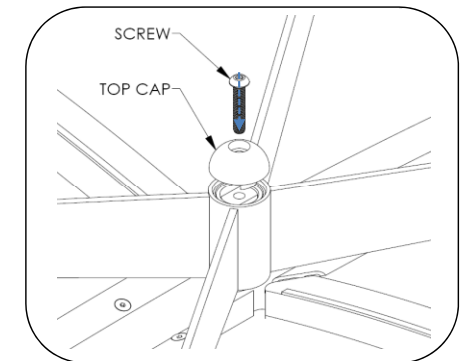

Fig. 2 – Install top cap
3. Install the top cap with the 3/8-16 x 2" socket button head cap screw. Tighten to 15 ft/lbs. See Fig. 2.